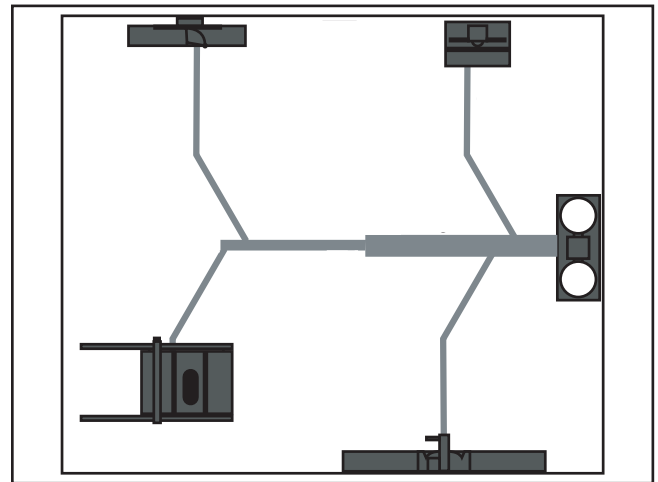

Figure 18. Good duct layout.
2. Ideally, you should design the duct system to have the shortest possible main line and secondary branch ducts. See **Figures 18 & 19** for ideas of good duct layouts vs bad duct layouts.